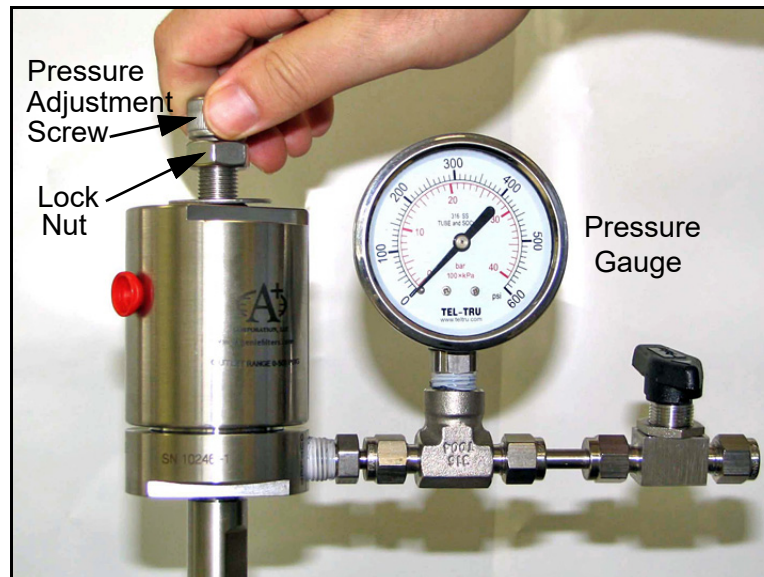

Figure 23: Turning the Pressure Adjustment Screw
2. Turn the pressure adjustment screw clockwise to increase the pressure (see *Figure 23* below). The optional pipeline insertion membrane liquid separator/pressure regulator is the FIRST STAGE pressure reduction of the system when used. Depending upon your source pressure, you should step down the pressure to a value in the range listed in *Table 2* below.